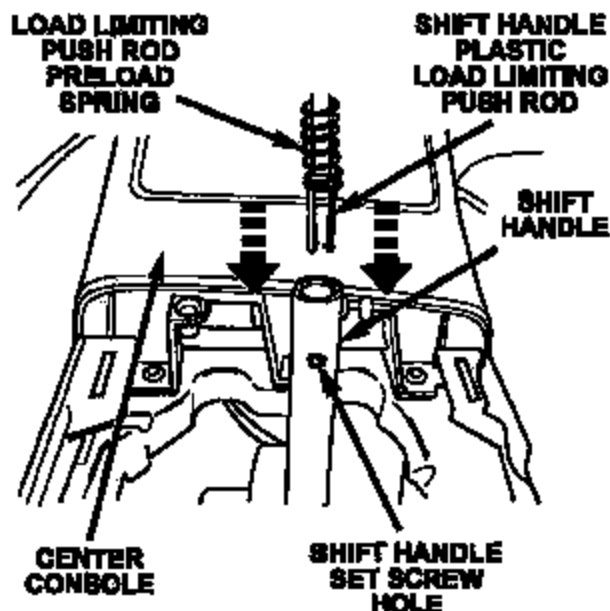

Figure 6 – LH Model with Cobra Handle Shown
16. Orient the new load limiting push rod so that the forks are parallel with the center console (Figure 6). Insert the load limiting push rod, with the preload spring in position, into the shift lever. Be sure that the push rod is fully seated.